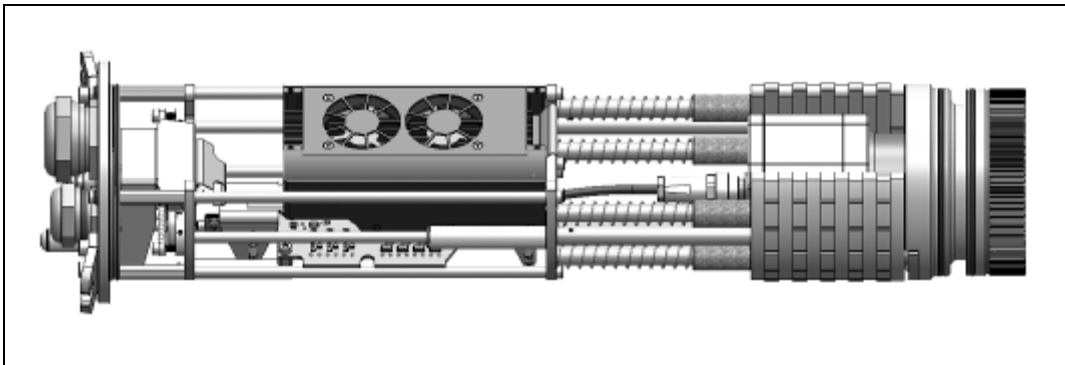

Figure 37: Chassis with PI camera, industrial PIF and PI Netbox
7. Then connect the PI camera and the PI Netbox with the provided USB cable and the Industrial PIF with the camera. Combine the network connector and the PI Netbox (**Figure 37**).